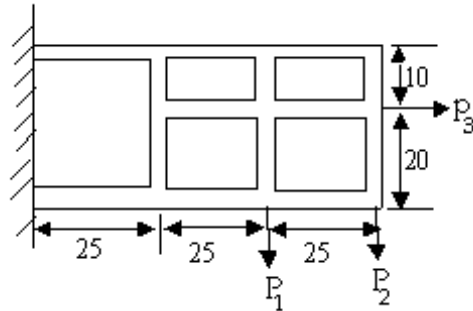

Figure 11b
- (b) Find the shear flow in each web of the beam shown in the figure 11b. Plot the distribution of axial load along each stiffening member when $P_1=20\text{kN}$, $P_2=15\text{kN}$ and $P_3=10\text{kN}$. All dimensions are in cm. [6+10]